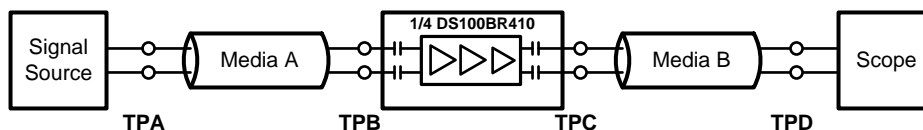

Figure 1. Test Setup Diagram
(3) Measured with clock-like {11111 00000} pattern.
(4) Measured with clock-like {11111 00000} pattern.
(5) The de-emphasis level of -3 dB, -6 dB, -9 dB are for VOD = 1.2 Vp-p. At lower VOD level, the de-emphasis levels are reduced.
(6) Random jitter contributed by the equalizer is defined as  $\sqrt{J_{OUT}^2 - J_{IN}^2}$ . JOUT is the random jitter at equalizer outputs in ps-rms, see point C of Figure 1; JIN is the random jitter at the input of the equalizer in ps-rms, see point B of Figure 1.
(7) Deterministic jitter is measured at the differential outputs (point C of Figure 1), minus the deterministic jitter before the test channel (point A of Figure 1). Random jitter is removed through the use of averaging or similar means.